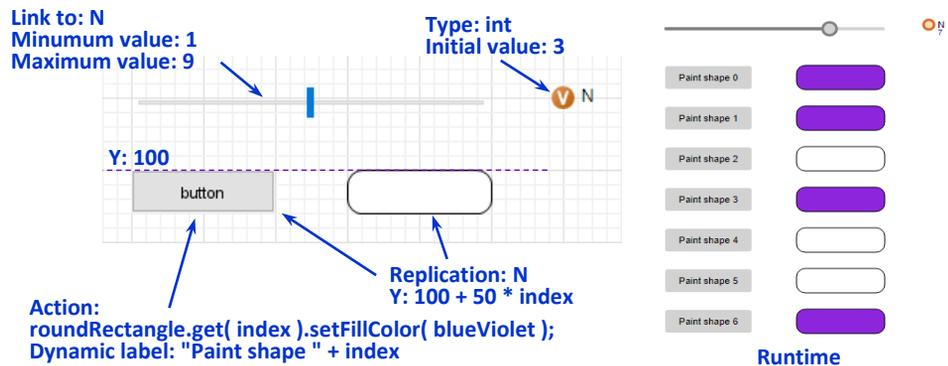

Figure 13.9 Replicated button controlling a replicated shape
1. Create the following four elements as shown in Figure 13.9: a slider, a variable, a button and a rounded rectangle.